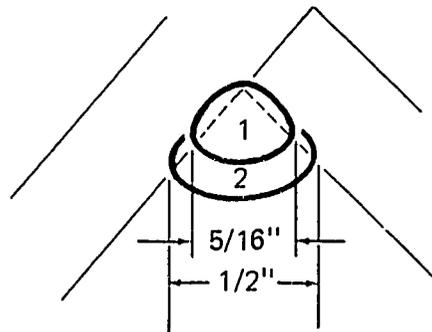

FIGURE 5
- H. Travel at a speed to produce a bead face about $1/4''$ to $5/16''$ wide; second bead will be about $7/16''$ to $1/2''$ wide (Figure 5)